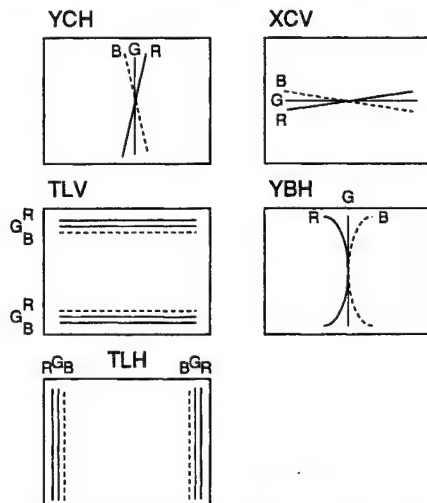

Fig. 3-26 Convergence compensation VR, coil, and compensator
3. When the nonconvergence of the TILT component is included in the horizontal convergence, insert the TLH compensator into the deflection yoke for adjustment. (Fig. 3-26)
3. When the nonconvergence of the TILT component is included in the vertical convergence, insert the TLV compensator into the deflection yoke for adjustment. (Fig. 3-26)